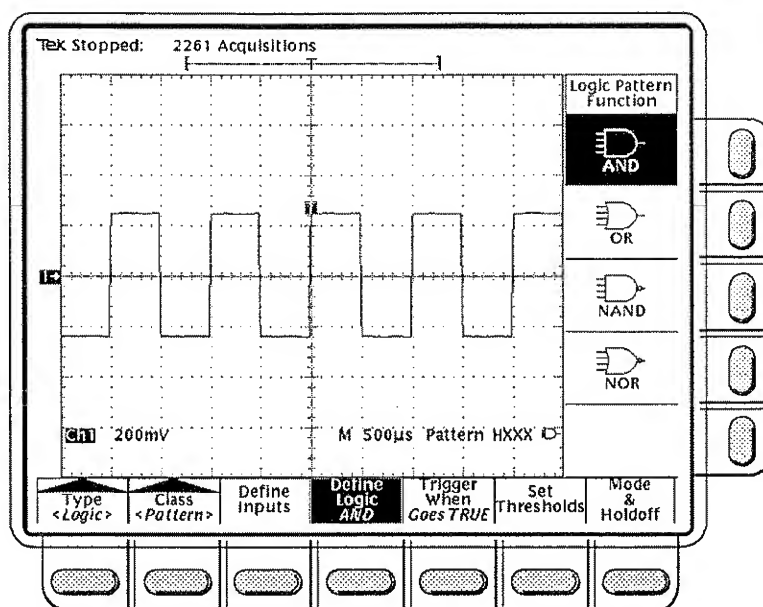

Figure 3-26: Main Trigger Menu – Logic Pattern Function
- ☐ **Step 1:** Press the **TRIGGER MENU** button to call up the Main Trigger menu (Figure 3-26).
**Define Logic** — Press the main menu **Define Logic** button to bring up a side menu of logic operators to apply to the combinational inputs. Your choices are: **AND**, **OR**, **NAND**, and **NOR** (Figure 3-26).